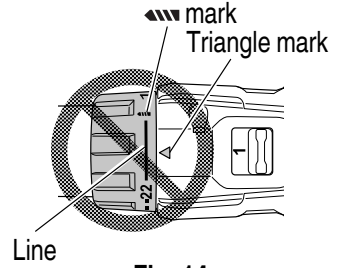

Fig. 14
- Do not use with the clutch dial set at the line between the number “22” and the drill mark “”. Doing so may cause damage (See Fig. 14).